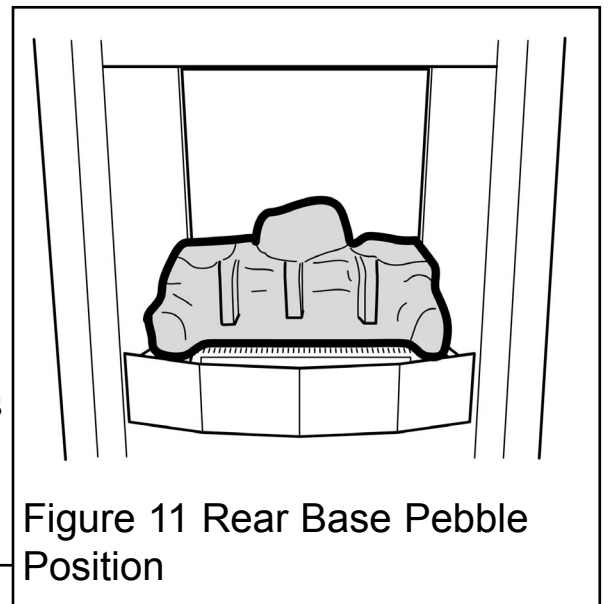

Figure 11 Rear Base Pebble Position
1. Place the rear base pebble in the firebox. It should rest on the ledges at the rear sides of the burner unit. When located gently move the rear base pebble so that it is as far forward as possible. The amount of movement will be negligible (See figure 11).